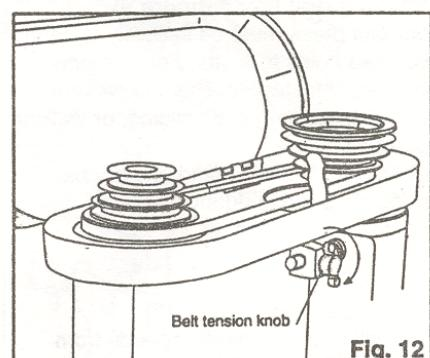

Fig. 12
3. Pivot the motor toward the front of the drill press. Hold the motor in this position and set the belt on the desired steps of the motor and spindle pulleys (fig. 12).